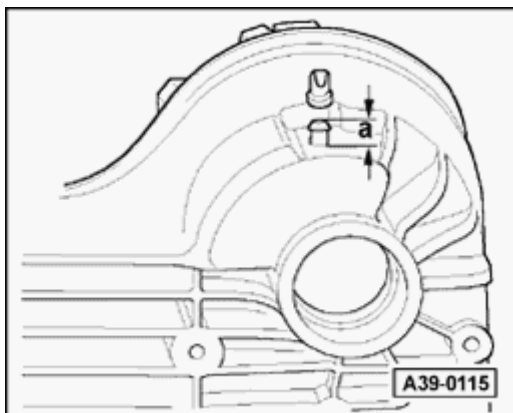

**Fig. 67: Installed Location Of Breather Sleeve**
- Installation position. See **Fig. 67**.